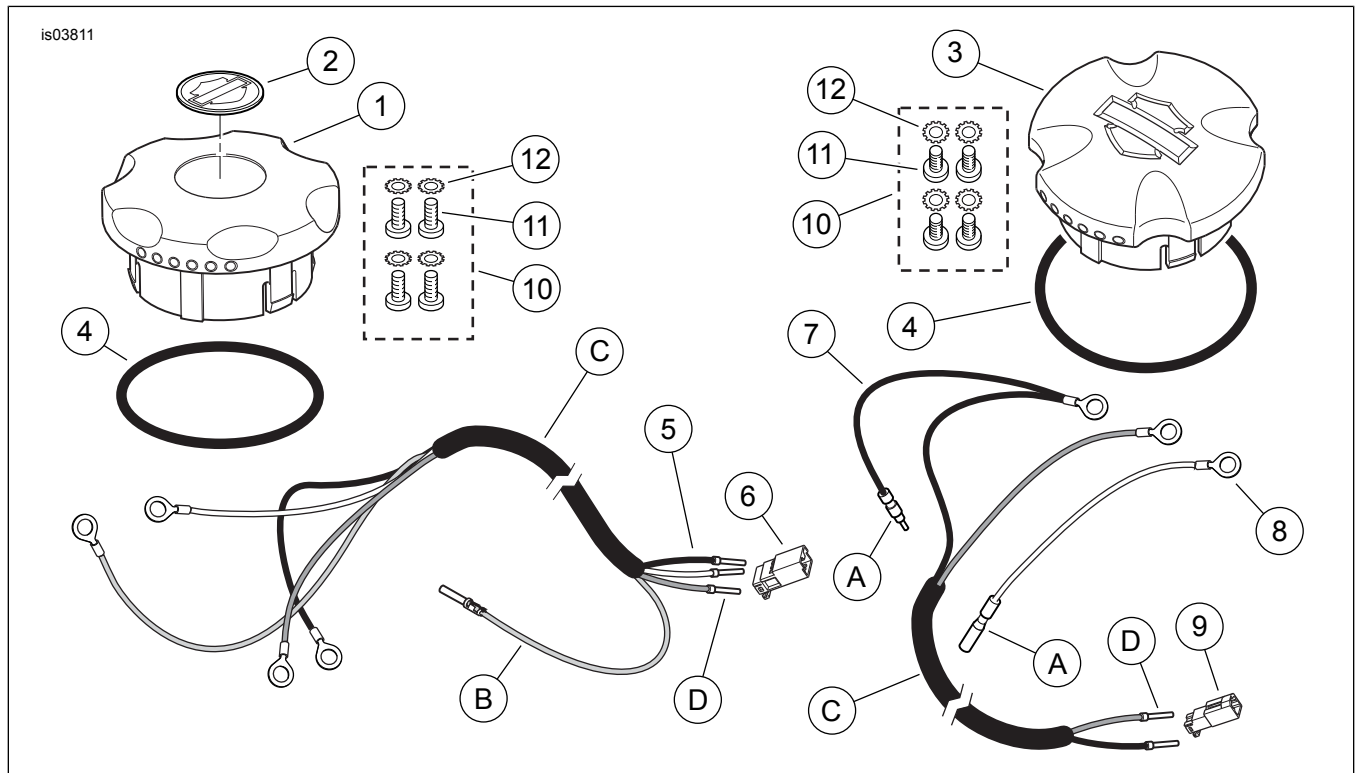

Figure 5. Service Parts, LED Fuel Gauge Kits
See Figure 5 and Table 2.
2. See Figure 5. Depress the pin on the socket housing side of the connector, and pull apart the pin and socket halves.
1. See Figure 5. Obtain the **new** LED fuel gauge (1 or 3), O-ring (4), and wiring harness (5) from the kit. Assemble the O-ring to the fuel gauge.
3. **For 2001-2003 fuel-injected models**, the Gray wire (4) will not be used. Cut the wire short and tape over the end with electrical tape. The Phillips-head screw can remain in the connection marked "3V" and "GR". **For 2004 and later carbureted models**, the Gray wire (4) will not be used. Cut the wire short and tape over the end with electrical tape. The Phillips-head screw can remain in the connection marked "3V" and "GR". **For 2004 and later fuel-injected models**, fasten the Gray wire (4) ring terminal to the gauge connection marked "3V" and "GR". **For ALL models:** Tighten all four Phillips-head screws to 0.4–0.9 N·m (4–7 in-lbs).
4. See Figure 5. While carefully lowering the fuel gauge, feed the wire harness down into the drain tube until the long Gray wire (B) and three short (Orange, Black, Yellow/White) wires exit the hole at the bottom of the fuel tank. Gently pull the wires (to remove slack) while installing the gauge to the fuel tank. **DO NOT** twist the gauge during installation. Hold the gauge firmly and press downward until it snaps into place.
1. See Figure 5. Obtain the **new** LED fuel gauge (1 or 3), O-ring (4), wiring harness (7), and separate Yellow/White wire lead (8) from the kit. Assemble the O-ring to the fuel gauge.
4. See Figure 5. While carefully lowering the fuel gauge, feed the wire harness (7), and Yellow/White wire lead (8) down into the drain tube until the two longer (Black, Orange) wires with pin terminals (D) exit the hole at the bottom of the fuel tank. Connect the two shorter wires (Black and Yellow/White) to the sending unit connectors (see **Analog Fuel Gauge Removal**, Step 5). Gently pull the long wires (to remove slack) while installing the gauge to the fuel tank. **DO NOT** twist the gauge during installation. Hold the gauge firmly and press downward until it snaps into place.
5. **For 2001-2002 carbureted FLHR models:** Install the two wires with pin terminals (D) into the correct cavities of the four-way pin housing [117A] removed from the O.E. analog fuel gauge in **Analog Fuel Gauge Removal**, Step 4. See Figure 3 and the AMP MULTILOCK ELECTRICAL CONNECTORS, INSTALLING SOCKET/PIN TERMINALS section in the Service Manual. **For all other models:** Install the two wires with pin terminals (D) into the correct cavities of the 2-way pin housing (Figure 5, Item 9) from the kit. See Figure 4 and the AMP MULTILOCK ELECTRICAL CONNECTORS, INSTALLING SOCKET/PIN TERMINALS section in the Service Manual.